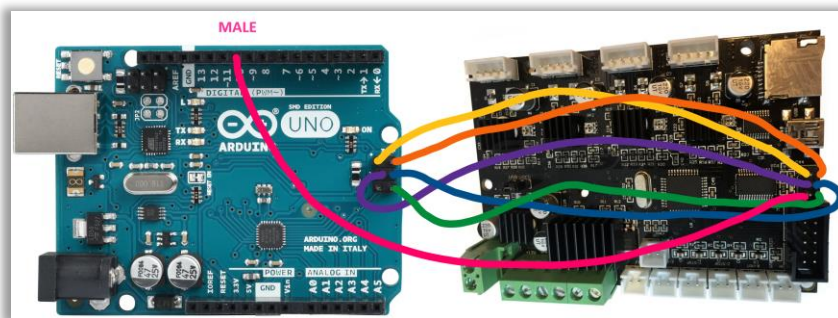

Figure 3: Arduino Bootloader Wiring
7. There is a 6 pin header on both the Arduino and the Melzi board. We will connect certain pins in order to flash the bootloader. Use the 6 jumper wires to connect the boards by following the diagram in figure 3 below.